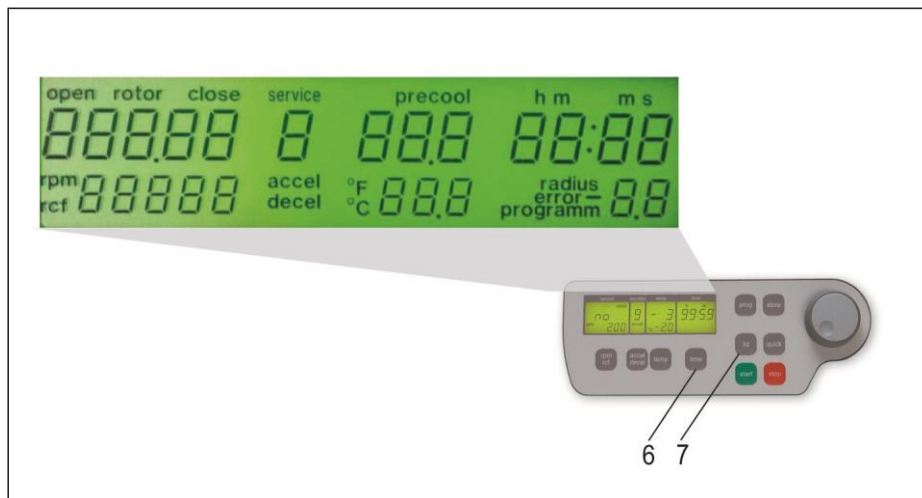

Figure 3
If the centrifuge is still turned off, press the keys, "time" (6) and "lid" (7) simultaneously, turning on the main switch of the centrifuge. Now release both keys. As a result, a display test is administered for approx. 5 seconds. All possible indications will appear at the same time, (see Figure 3).